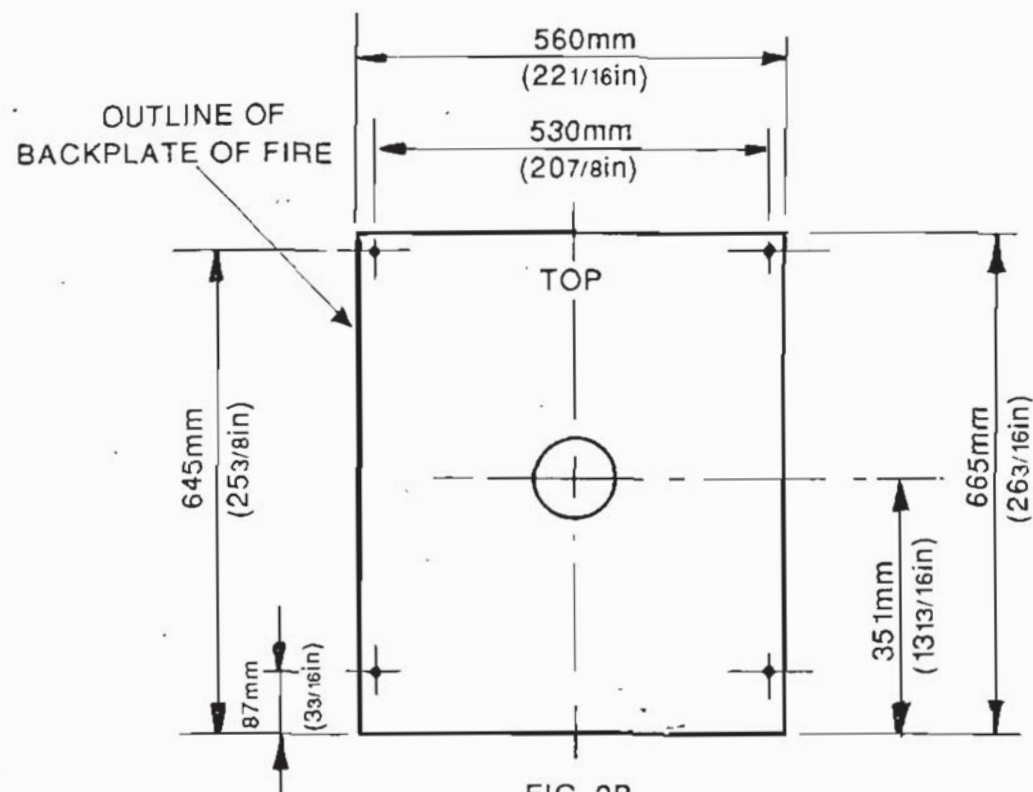

FIG. 2B
A template representing the backplate full size: indicating the positions of the air inlet duct and fixing screw positions of the air inlet duct and fixing screw positions (see Fig. 2B) is printed on the back of the carton.
- 4.1 Cut out the template from the carton after ensuring that the fire is suitable for the installation. Place the template against the wall ensuring that the top is level. For hearth mounting, ensure that the centre of the flue is 351mm (13¹⁵/₁₆in) above the hearth (Fig. 1). Mark the positions of the flue and four fixing holes (see Fig. 2B) and remove the template.